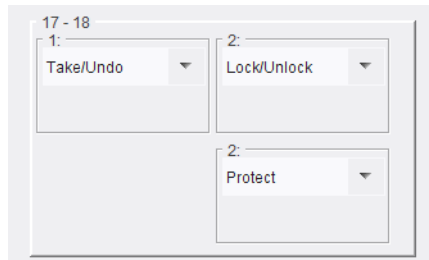

Fig. 6-15: Map Buttons 17 to 18
- 4 Select each button function type with the corresponding drop-down selection box and set button types to those shown in Figure 6-15.